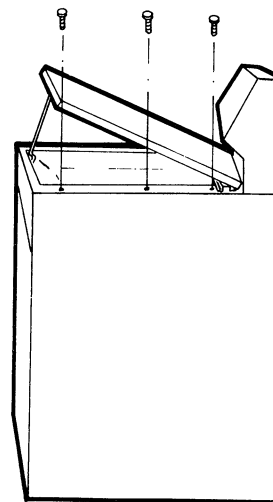

Figure E8
6. Remove the three screws, and the top guide. (See Figure E8)